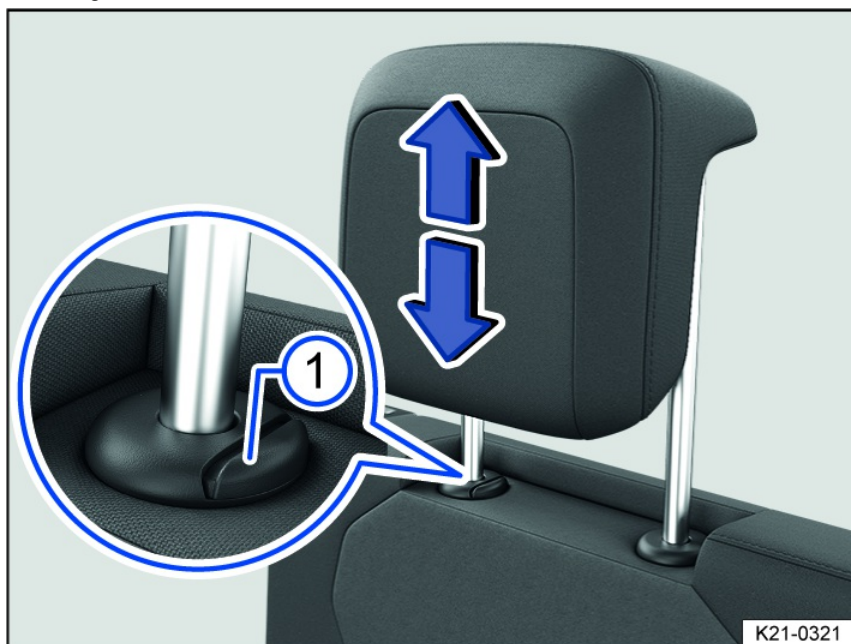

Fig. 87 General example: removing head restraints on the third-row seats.
3. Pull the head restraint all the way out while pressing the fig. 87 button.
3. Push the head restraint downward while pressing the fig. 87 button.